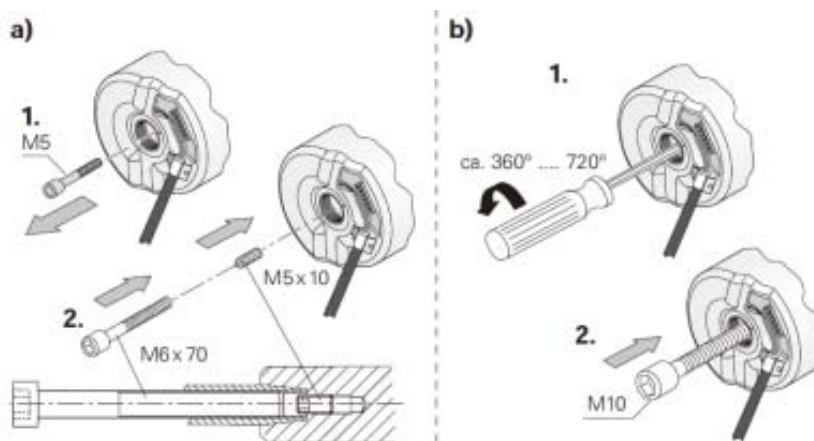

Fig.14 Screwing up the tightening bolt
- The bolts must be screwed up by the torque requirement in Fig.14, otherwise it will result in the error of the encoder. and such error may lead to the elevator's runaway or excessive current; the iron ring and cover plate must be kept in reliable contact, otherwise it may lead to some interference. The encoder's line must be fixed with clamps, otherwise the encoder's line will probably fall off or break.